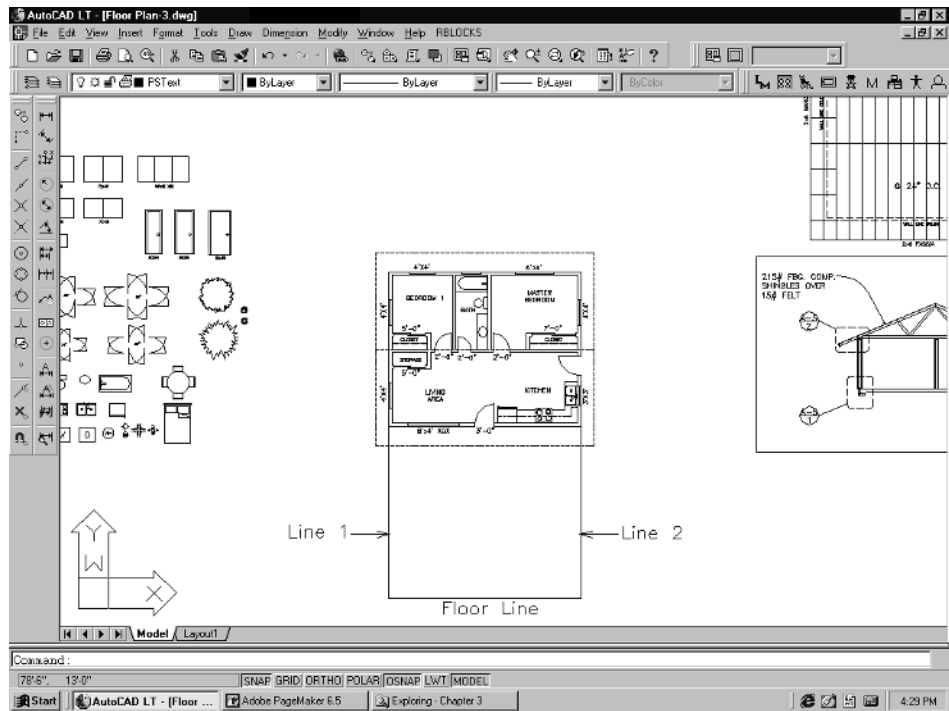

Figure 4-7
3. Start by picking the left exterior wall corner and pulling your cursor down. You can type in a distance, or just pull the cursor and watch the coordinate readout in the lower left corner of your screen. The line should be around 25' long. Do the same for the right wall corner. Next draw a horizontal floor line down near the end of the lines, and then clean these up with the Fillet command. See Figure 4-7.